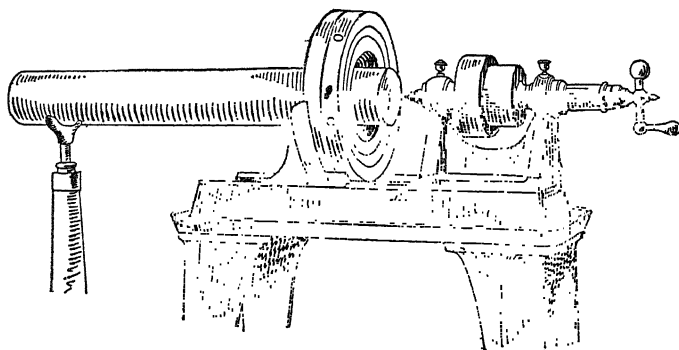

FIG. 71.—Centering machine. (Courtesy of D. E. Whiton.)
**83. The Centering Machine** (Fig. 71).—Modern machine-shop equipment includes a centering machine which automatically holds round pieces central with the drill spindle thus making it unnecessary to locate the centers otherwise. (There